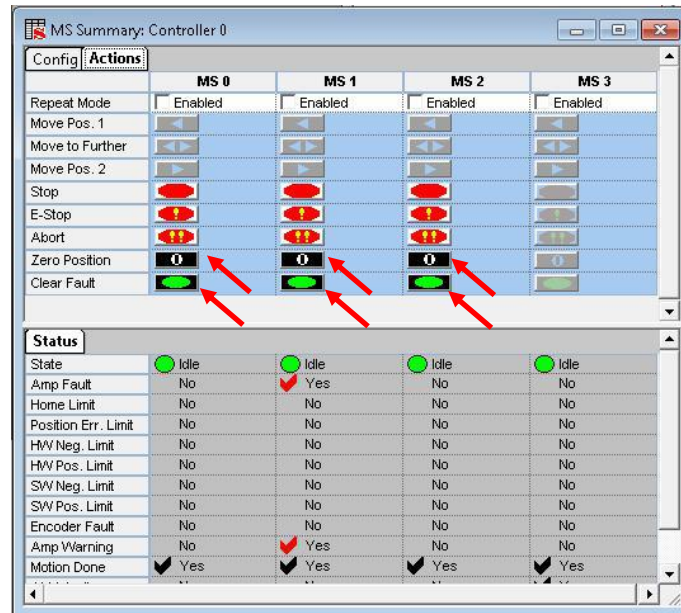
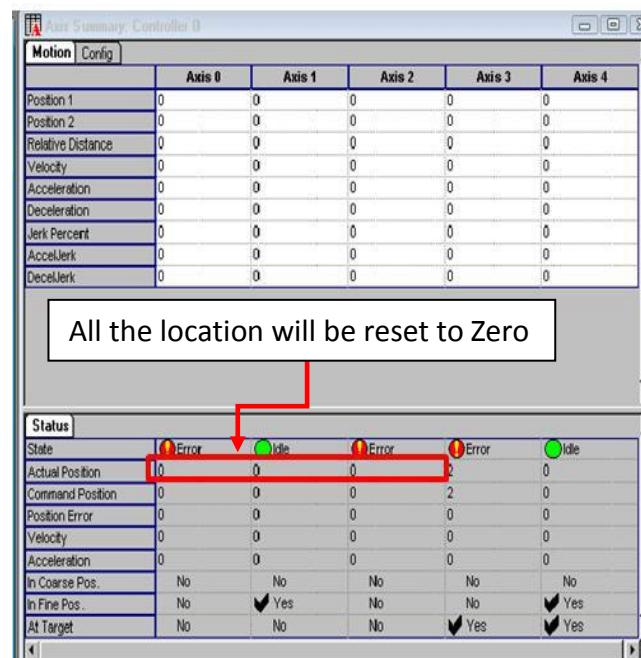

Figure 23 MS Summary
Figure 24 Axis Summary (Actual Position)
33. Reset again the Axis 2 become zero as shown in Figure 23 and ensure the actual position for the Axis 0, Axis 1 and Axis 2 become zero as shown in Figure 24.